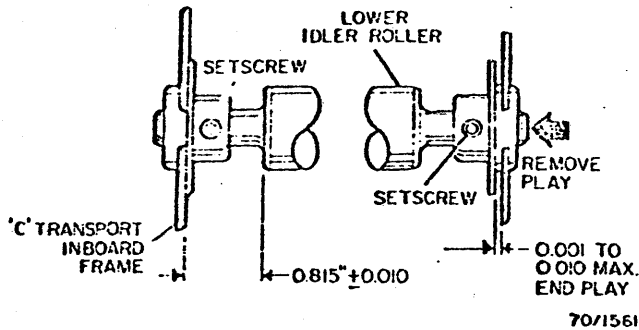

Fig. 3-207. Lower Idler Roller
2. Adjust the roller in accordance with Fig. 3-207.